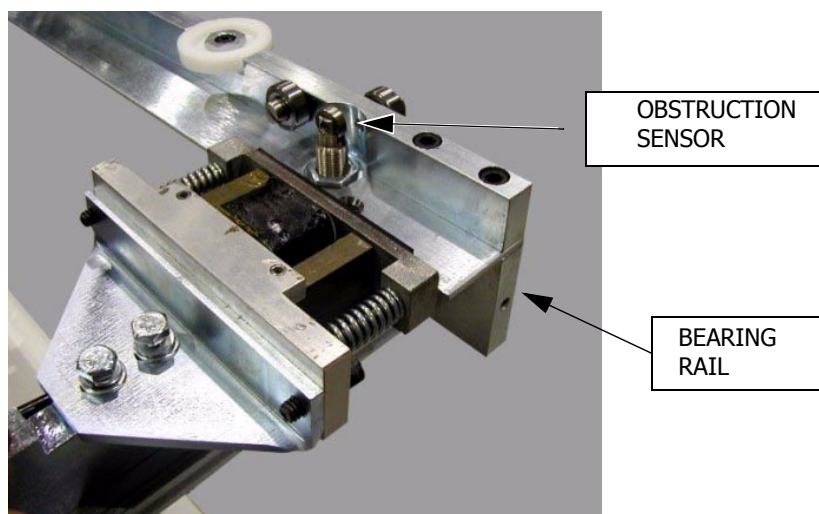

Figure 10. Obstruction Sensor (Typical)
On Model QT-750, the operation of the four (4) Obstruction Sensors (S3-S6) must be verified at installation. The Obstruction Sensors are located at either end of the left and right Transverse Assemblies below each tabletop rail (see Figure 10). Proceed as follows: